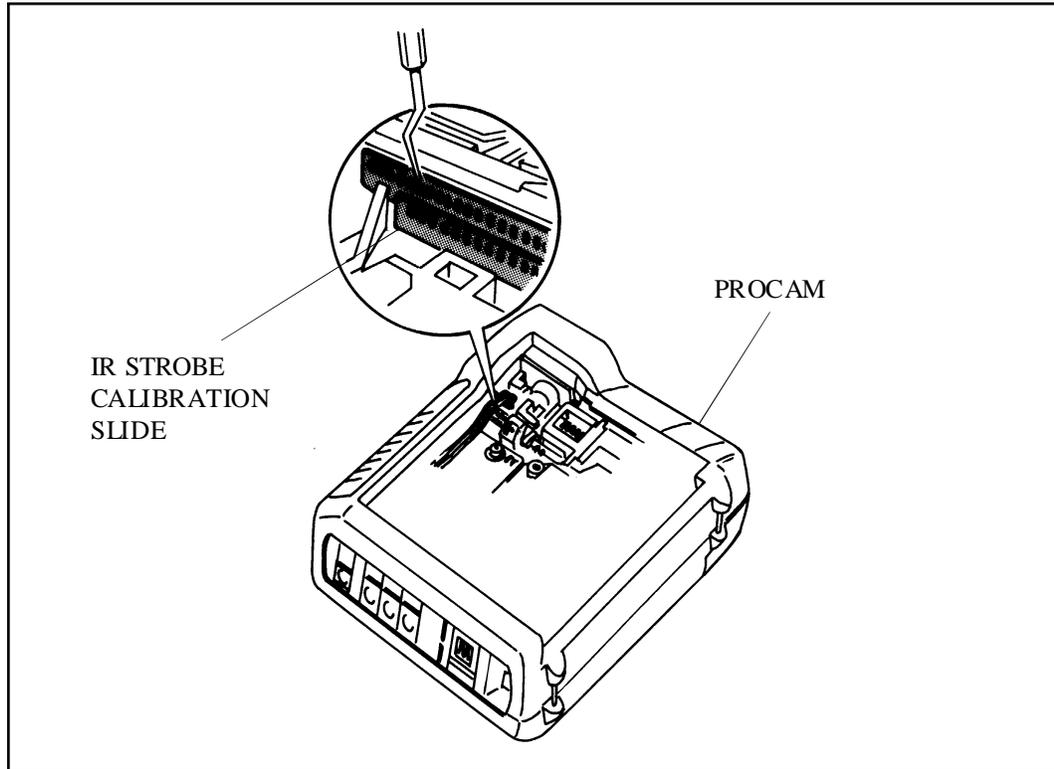

Figure 2-6. Adjusting IR Strobe Exposure Calibration Slide
2. If the Strobe Exposure Test readings are too low, use a dental pick and slide the IR Strobe Calibration Slide (Figure 2-6) to the right, in proportion to the amount the reading is too low.
3. If the Strobe Exposure Test readings are too high, use a dental pick and slide the IR Strobe Calibration Slide (Figure 2-6) to the left, in proportion to the amount the reading is too high.